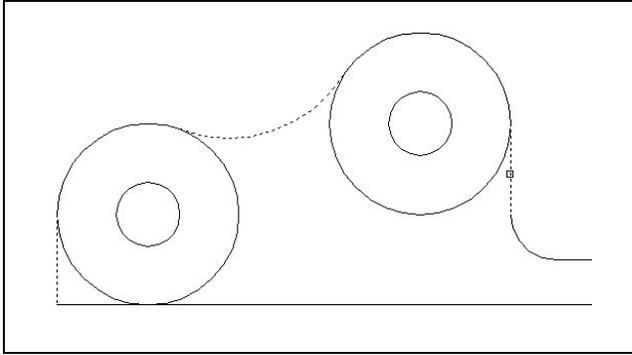
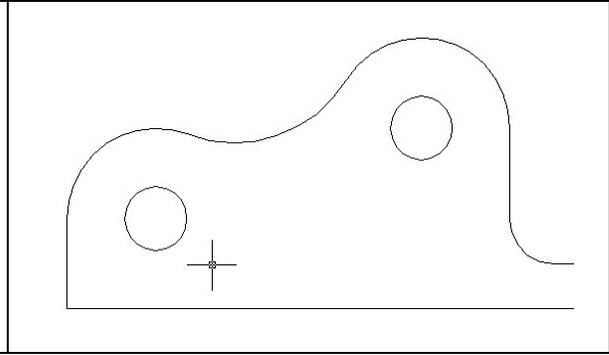

Figure 10.9 – Select Trimming Entities
Figure 10.10 – Trim Circles
By precision selection of entities in a drawing, the Trim tool can be utilized to modify basic circles into arcs. By selecting precise lines as cutting surfaces, entities that are overlapping each other will be ignored and less cutting will be require. Select the Trim tool on the Modify toolbar, and at the prompt “Select cutting edges” pick the three objects shown as dotted lines in Figure 10.9. Next to remove the circular segments press ENTER to continue with this two part command and “Select object to trim or shift-select to extend or [Project /Edge/Undo].” will appear on the command text line. Pick the portion of the circle that does not appear on the perimeter of the bracket, and the top view of the bracket will appear as shown in Figure 10.10.
*** World Class CAD Challenge * - Create a New file using the Metric template, and draw the 10 entities shown in Figure 10.10 in 50 seconds. Continue this drill four times, each time completing the drawing under 50 seconds to maintain your World Class ranking.**